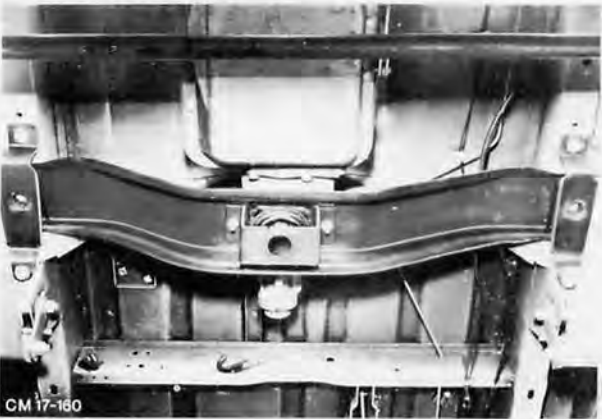

Fig. 27. Transmission support bracket
16. Remove transmission support bracket from transmission and body (5 bolts), Fig. 27, supporting transmission during removal.
17. Remove transmission flange bolts (5) and place earth strap together with vacuum pipe bracket on one side.